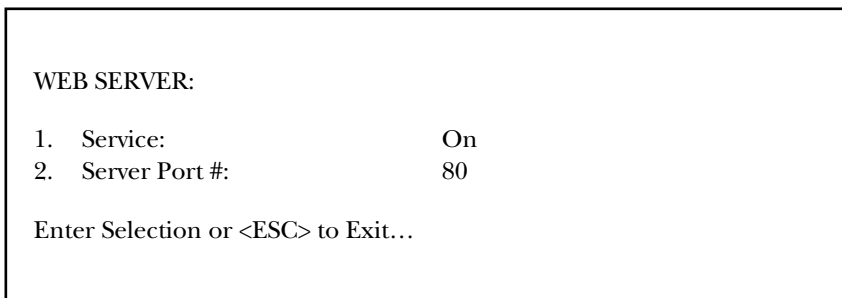

Figure 5-13. Web Server Parameters menu (text interface).
- Text Interface: Type /W and press **Enter**. The Web Server Parameters menu appears (see Figure 5-13).